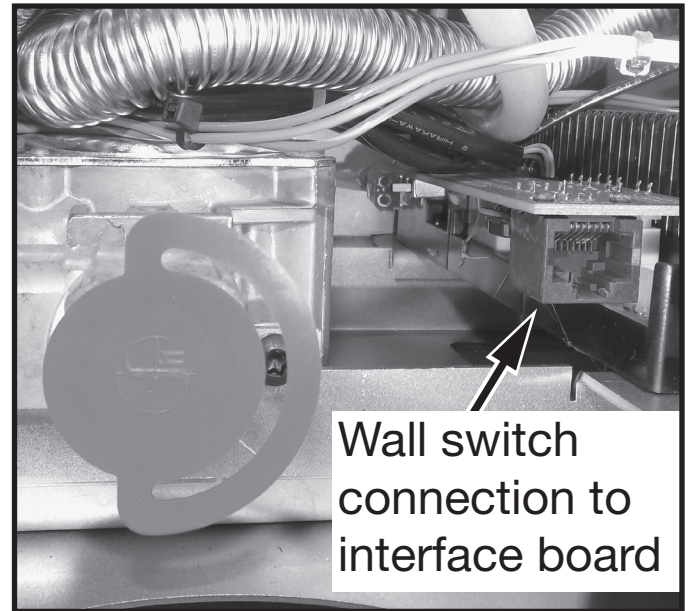
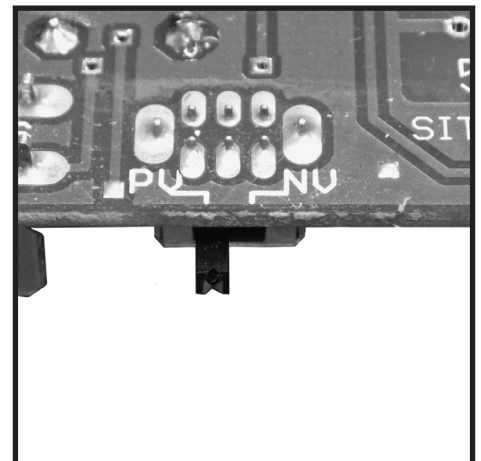

Figure 28: Interface board connection for wall switch.
Figure 34: Power vent switch.
4. Connect the cable for the wall switch / Home automation to the connector just forward of the power vent switch (Figure 28).
The NV / PV (Natural Vent / Power Vent) switch (Figure 34) on the interface board (Figure 28) is set according to which type of evacuating vent system is present. If using a power vent, “PV” should be selected. Follow the instructions provided with the power vent kit for proper installation.